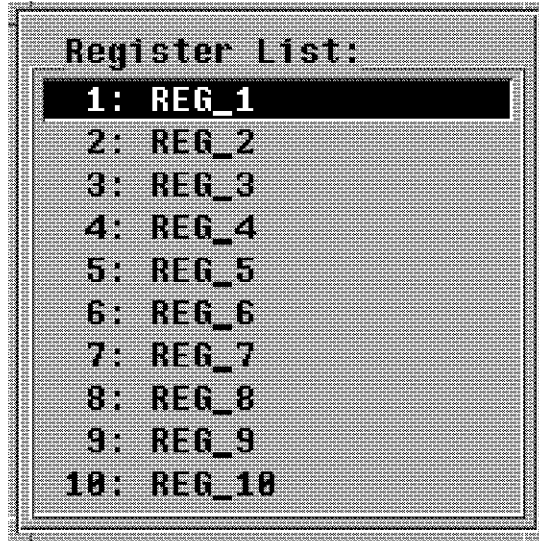

Figure 4-11 Register List Display
- {CURSOR ↑} :] Shifts the cursor up/down of the register list (Figure 4-11)
- ⑤ Character editing menu